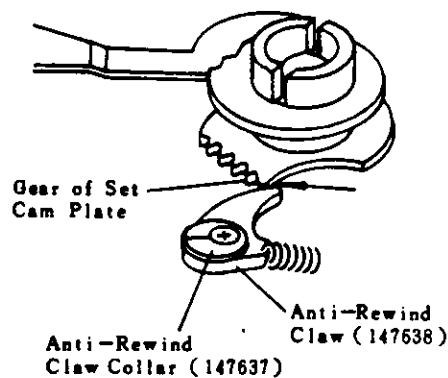

Fig 36
- k) Turn the Winding Shaft Ass'y in the direction of arrow as shown in (Fig 36) and hold the Set Cam Plate by the Anti-Rewind Claw on the halfway.